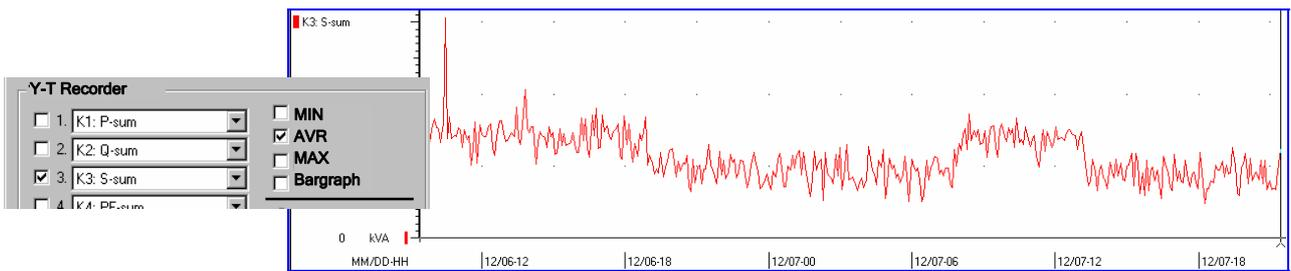

Figure 3.5.4-h: The average value line recorder curve for a measuring channel with compressed time axis suppresses any brief measured value fluctuations.
- ▶ The **MIN/AVR/MAX** checkboxes are used to specify which saved measured values will be displayed as a Y-T line diagram. If display of all three measurement types is activated, three lines of identical color are generated for each active line recorder channel (→ Figure 3.5.4-i).
Figure 3.5.4-i: Despite compressed time axis, the representation of the line recorder curves for minimum, maximum and average values for a given measuring channel shows measured value fluctuations.